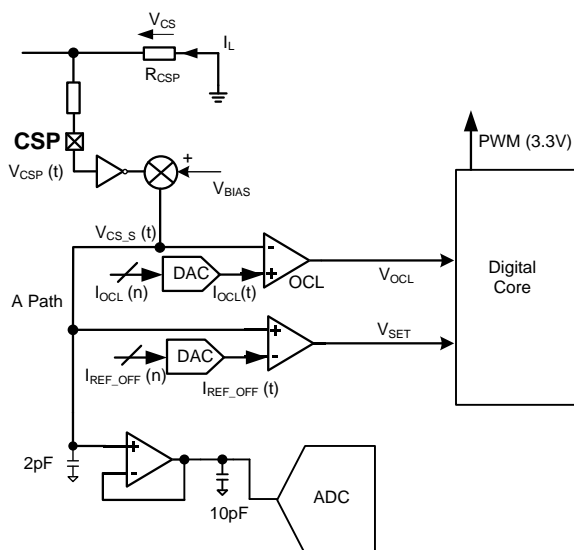
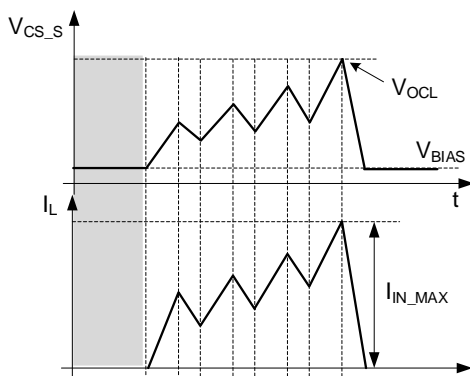

Figure 15: CSP Pin Current-Sense Circuit
Figure 16: V_{CS_S} Waveforms
The PFC inductor current (I_L) is sensed by the current-sense resistor (R1), which produces a negative voltage (V_{CSP}). This value is converted internally to a positive voltage with a bias (V_{CS_S}) (see Figure 15 and Figure 16). The ADC samples V_{CS_S} once the PFC gate turns off. V_{CS_S} can be calculated with Equation (2):
Figure 15 shows the current-sense circuit on the CSP pin.
Figure 16 shows the V_{CS_S} waveforms.